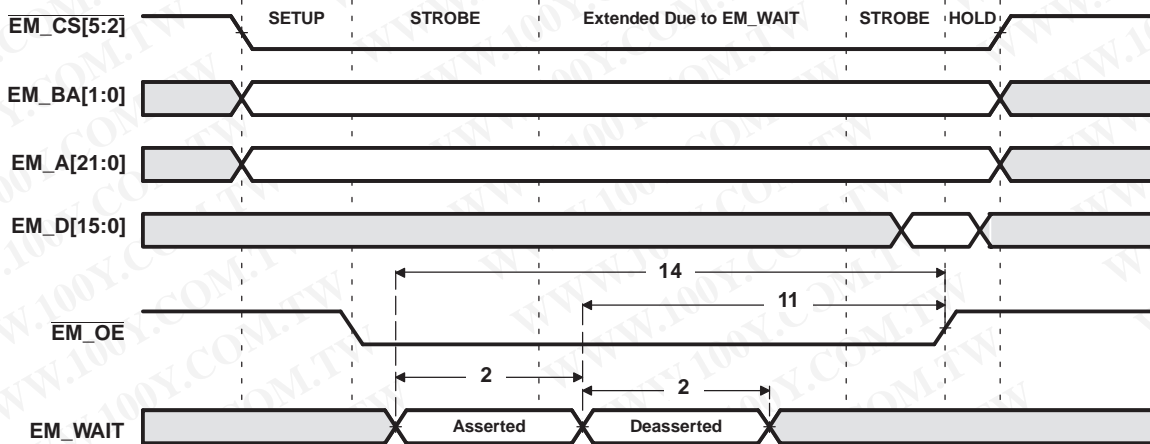
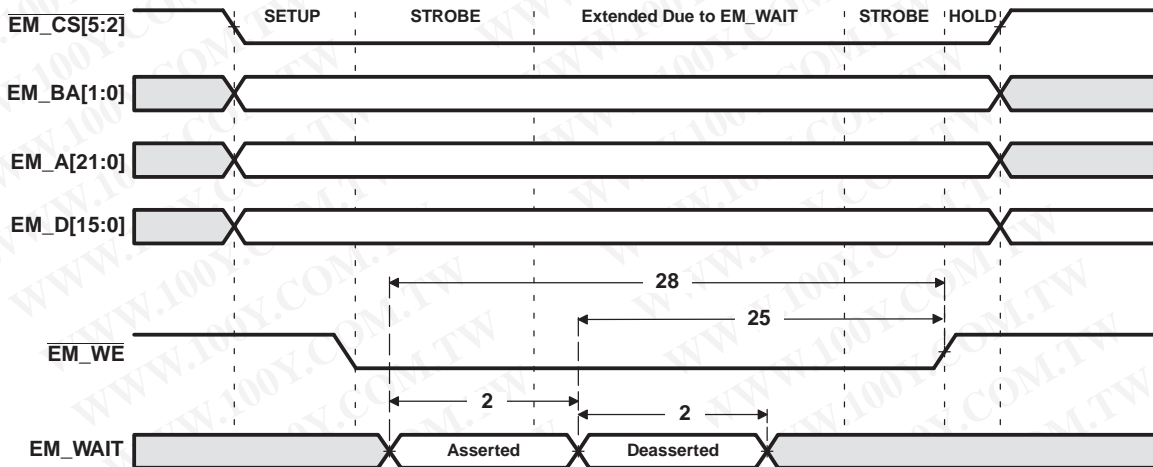

Figure 5-21. EM_WAIT Read Timing Requirements
Figure 5-22. EM_WAIT Write Timing Requirements
- (1) E = SYSCLK5 period in ns for EMIFA. For example, when running the DSP CPU at 405 MHz, use E = 14.8 ns.
- (2) Setup before end of STROBE phase (if no extended wait states are inserted) by which EM_WAIT must be asserted to add extended wait states. Figure 5-21 and Figure 5-22 describe EMIF transactions that include extended wait states inserted during the STROBE phase. However, cycles inserted as part of this extended wait period should not be counted; the 4E requirement is to the start of where the HOLD phase would begin if there were no extended wait cycles.